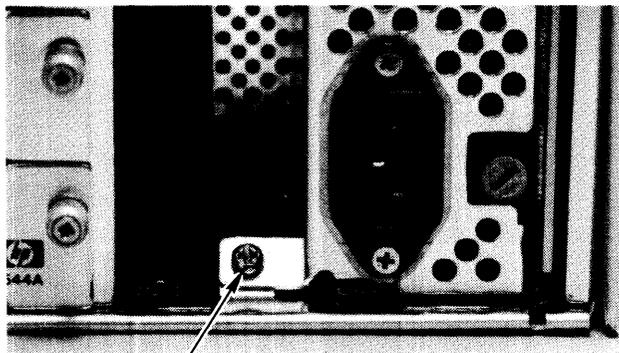

Figure 2-5. Power Supply Grounding Tab Screw
3. Remove the power supply grounding tab screw. Refer to Figure 2-5.